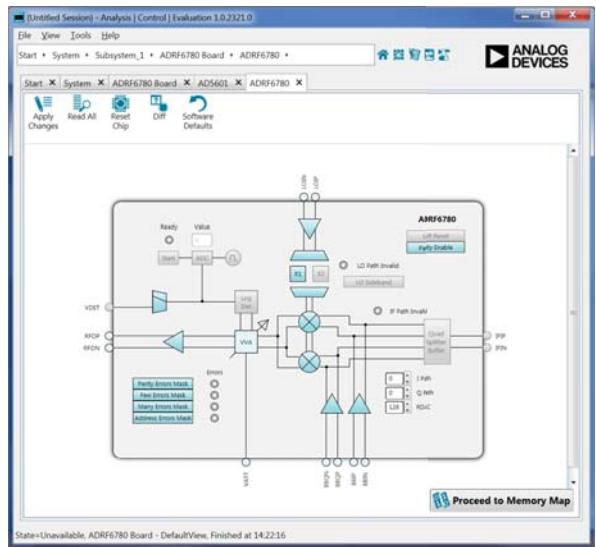

Figure 10. ADRF6780 Block Diagram in the ACE Software
5. The **ADRF6780** block diagram now appears (see Figure 10).